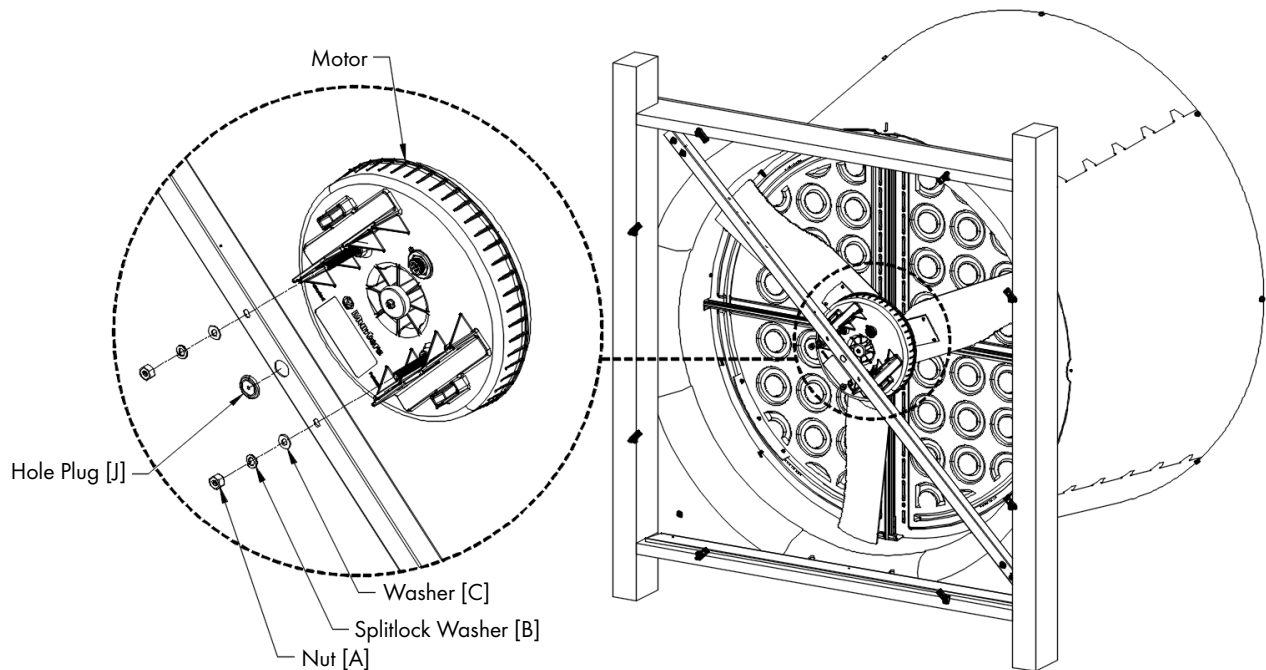

Figure 6
The Motor in the foam packaging has pre-installed bolts sticking up. Carefully remove the Motor from the foam packaging and from the outside of the fan slide the motor onto the strut so the bolts go through the 2 small holes at the center of the strut and fasten in place using (2) Washers [C], Splitlock Washers [B] and Nuts [A]. Then install (1) Hole Plug [J] in the large center hole of the strut. See Figure 6.